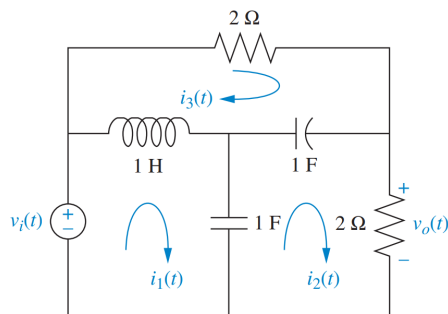

Figure 5: Electrical circuit
5. Consider the electrical circuit that is shown in Figure 5.